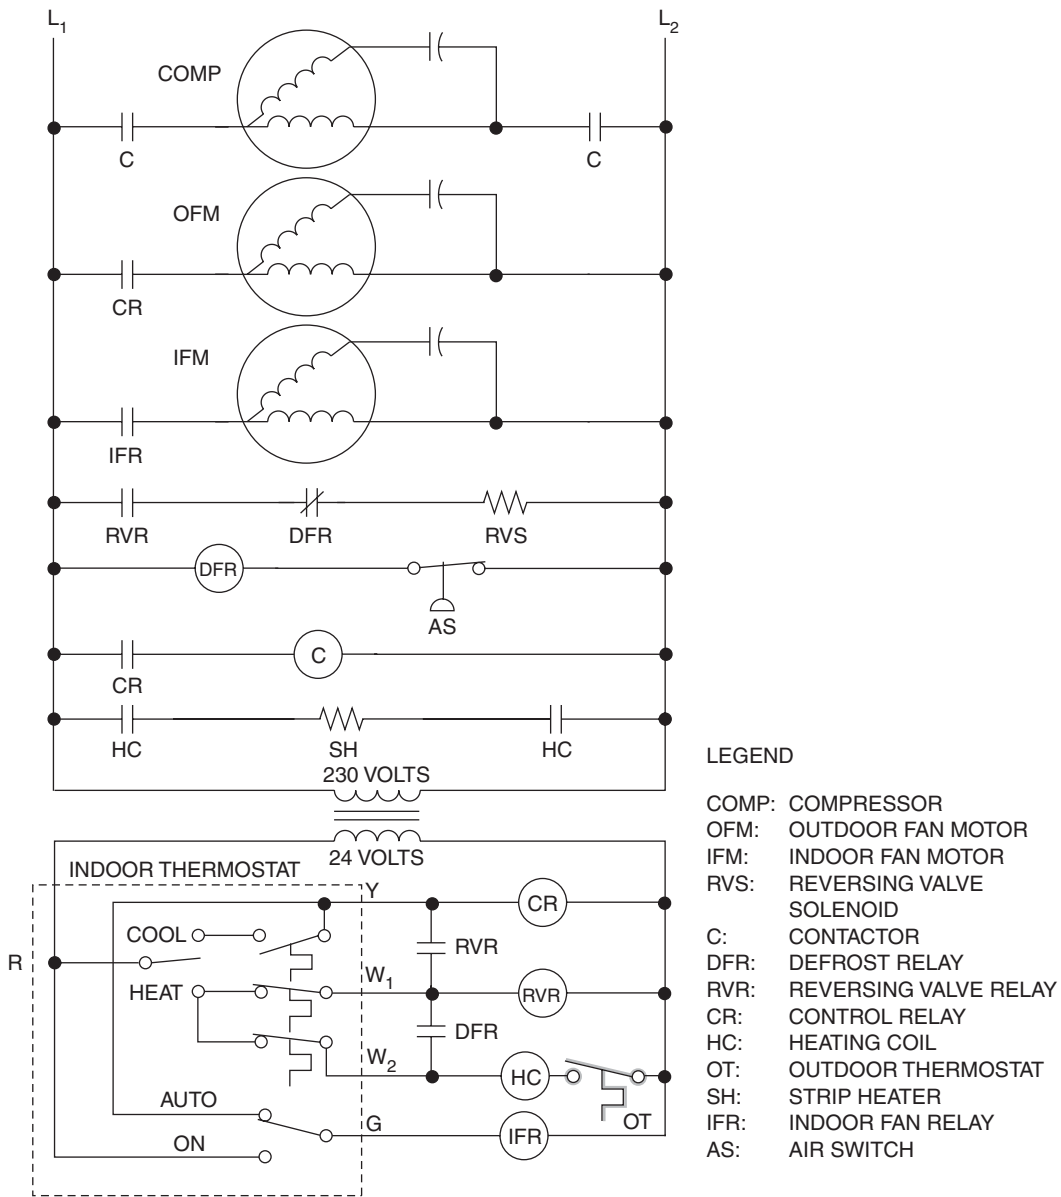

FIGURE 19-41 Circuit with outside air override.
Figure 19-41 shows an almost identical circuit to the previous circuit, but with one important change. A thermostat sensing outside air temperature (OT) has been added in series with the contactor for the strip heater (HC1). The purpose of the outdoor air thermostat is to keep the strip heater off whenever the temperature outside is warm enough that the heat pump operation alone should be sufficient to maintain comfort conditions. Without the outdoor air thermostat, the following undesirable result can occur.